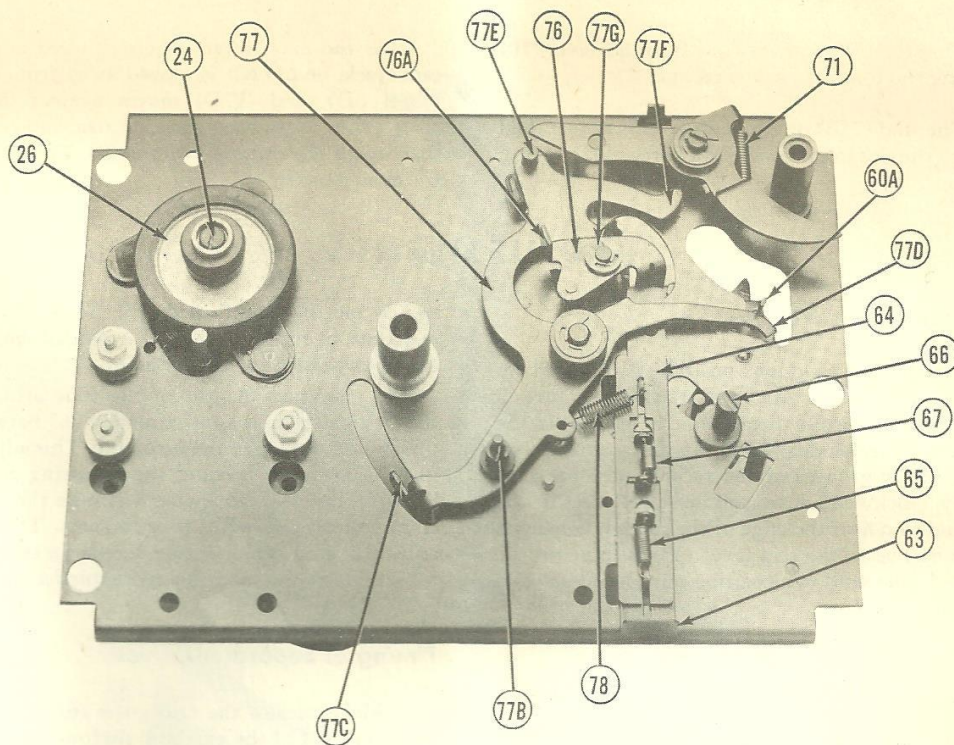
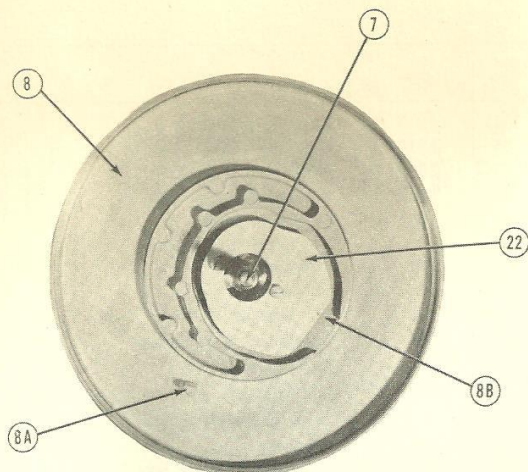

FIGURE 3
FIGURE 5
As the turntable rotates, a small projection (8A) extending from the underside of the turntable contacts the end of the trip pawl (76). Upon contact, the stud on the trip pawl (76) is forced against the main lever assembly (77) causing the follower stud (77B), Figure 3, of the main lever (77) to be forced through the slot and into the cycling cam groove (8B), Figure 5, thus starting the change cycle.
1. Stud (8A) of the turntable, Figure 5, broken off.
2. The dog (76A), Figure 3, bent, thereby not coming in contact with the stud (8A).
3. The long end on the trip pawl (76) bent away